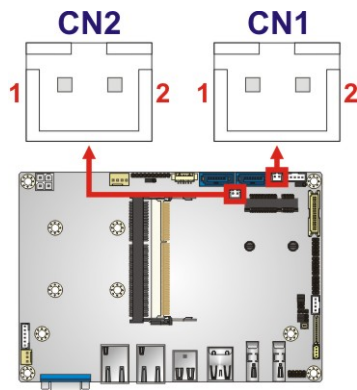

Figure 3-15: SATA Power Connector Locations
- CN Location:** See **Figure 3-15**